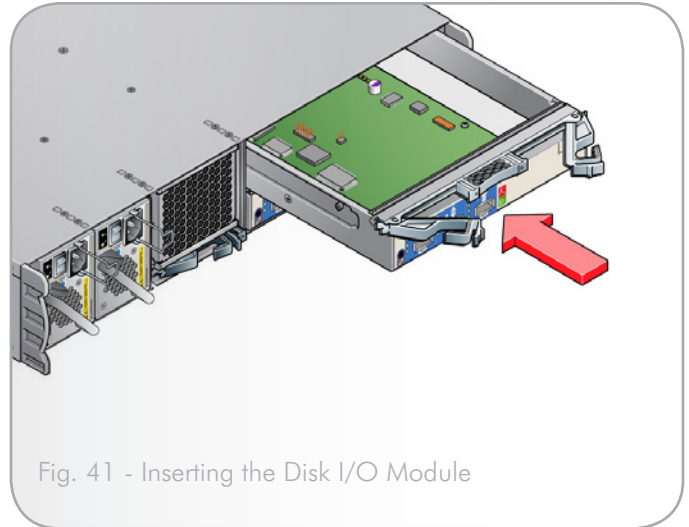

Fig. 41 - Inserting the Disk I/O Module
2. With the latches in the open position (see Fig. 41), slide the Disk I/O module into the enclosure until the latches engage.